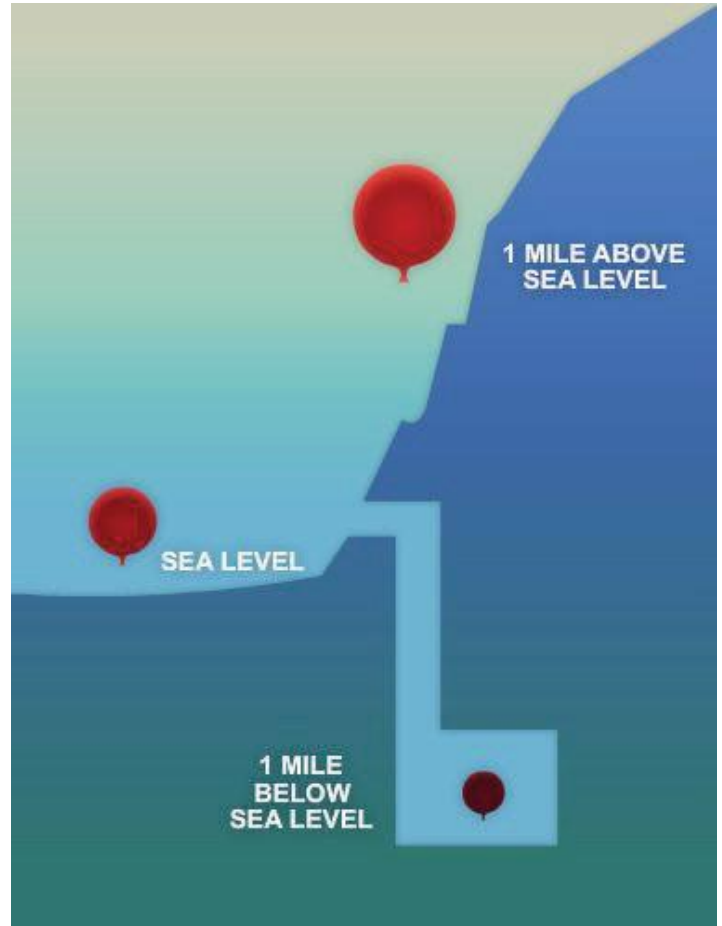

Figure 2-6 — Pressure differential in respect to sea level.
- Boyle's law—when the temperature is held constant, an increase in the pressure on a gas causes a proportional decrease in volume. A decrease in the pressure causes a proportional increase in volume, as shown in *Figure 2-6*. At sea level, the balloon has a given volume with respect to temperature and atmospheric pressure. As the balloon descends 1 mile below sea level, the volume of the balloon decreases due to increased atmospheric pressure. Conversely, as the balloon ascends to 1 mile above sea level, the balloon expands as the atmospheric pressure decreases.